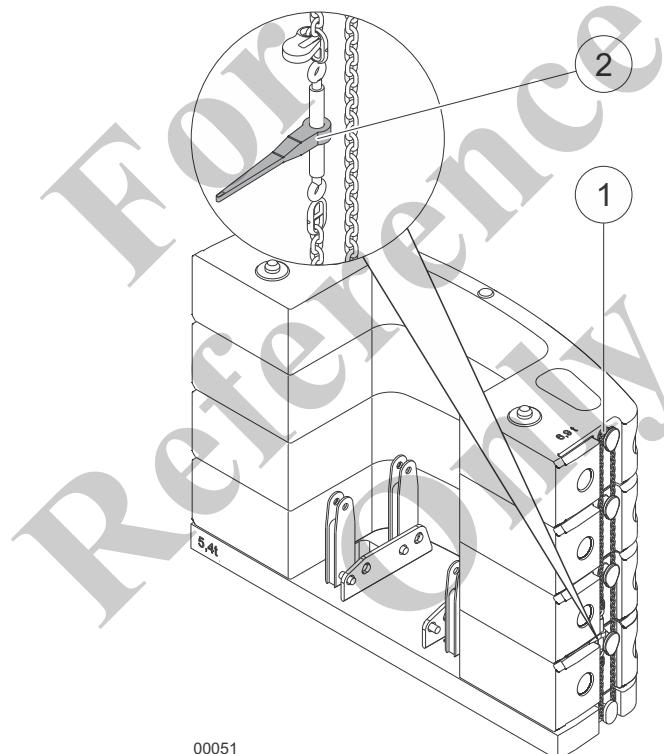

Fig. 38 Position of the ballast rods with hex nuts
3	Check the tension of the safety chain (1) in Fig. 38.
4	Eliminate chain slack using the tensioner (2) in Fig. 38.